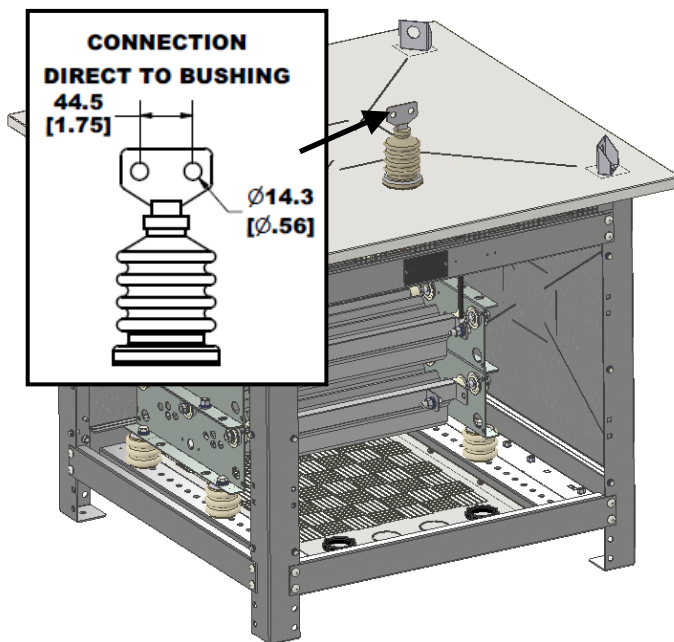
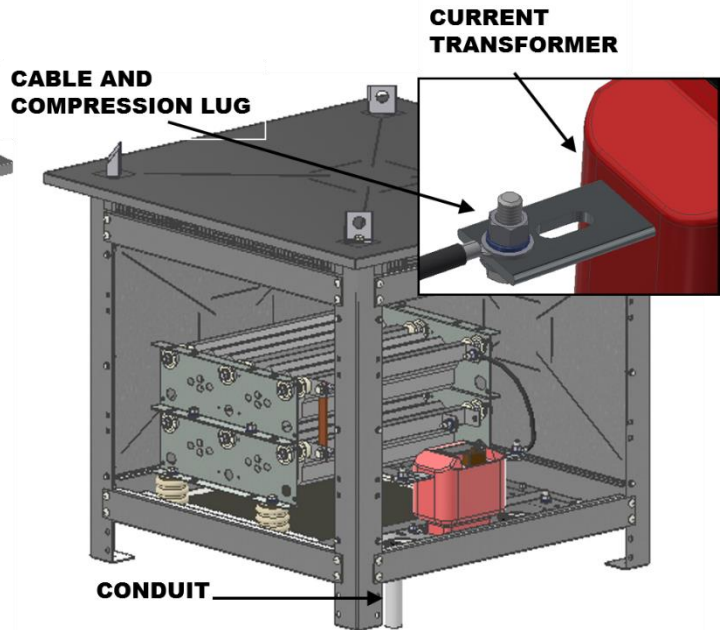

Figure 1: NEMA two-hole pad
Figure 4: Primary of current transformer
1. The connection is made directly to a top or side-mounted entrance bushing. The bushing has a NEMA two-hole pad-type connector. (See Figure 1.) Optional 4-hole pad-type are available.
4. The connection is made directly to the primary terminal of the bar-type current transformer which is mounted inside the enclosure. This terminal will be tagged "NEUTRAL" and requires a customer-supplied lug and bolt. The other primary terminal of the current transformer has been factory wired to the resistive element. The neutral lead usually enters from the bottom through conduit. (See Figure 4.) Sometimes the current transformer is factory wired to a top-mounted entrance bushing, in which case the connection is the same as the first example above. (See Figure 1.)
1. The connection is made directly to top-mounted entrance bushings. The bushings have a NEMA two-hole pad-type connector. (See Figure 1)
The connection is made directly to a top-mounted exit bushing. The bushing has a NEMA two-hole pad-type connector. The bushing will be factory wired to the resistive element. (See Figure 1.)